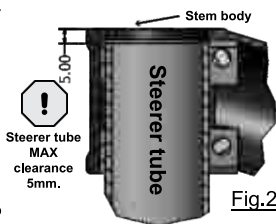

Fig.2
STEP 2 - Slide the stem over the steerer tube. Do not force open the steerer clamp to slide the stem over the steer tube. Make sure that the clearance from the steerer tube and the top of the stem is less than 5mm (see Fig.2).